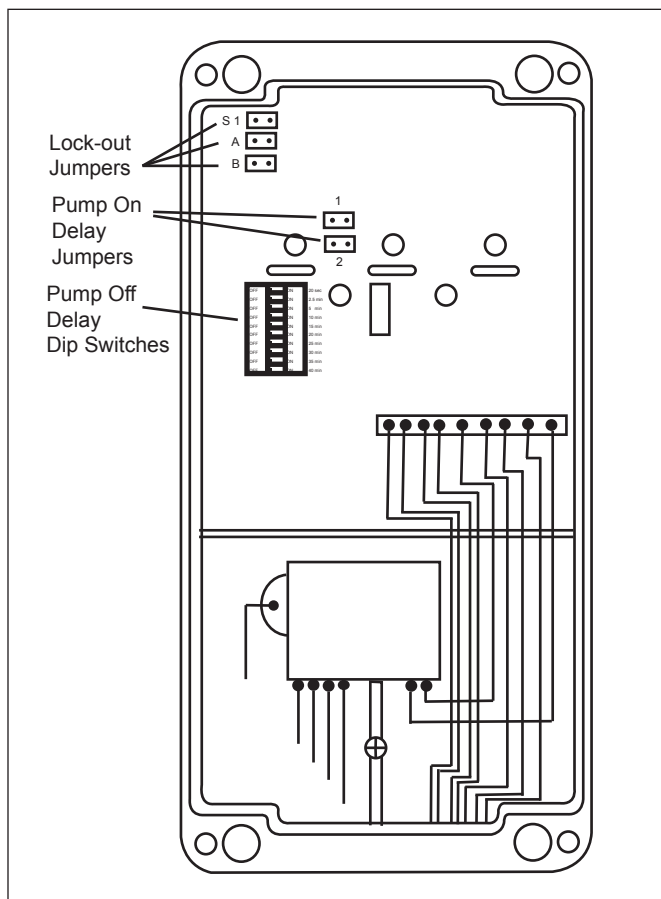

Figure 13. Jumpers and Dip Switches
The jumpers are located at the top left of the circuit board. See Figure 13.
The jumpers are located between the top left and middle controller lights on the circuit board. See Figure 13.
The dip switches are located below the top left controller light on the circuit board. See Figure 13.
2. Remove the three (3) screws from the upper cover plate on the front of the control box.
4. Locate the jumpers and dip switches. See Figures 13 and 14.
7. Install the three (3) screws. **Do not overtighten** or you will damage the plastic mounts.
4. Verify that jumpers 1 and 2 are installed on the control PCB. See Figure 13, page 14.
5. Replace the upper cover plate, making sure that the five (5) LEDs line up with the plastic lenses on the cover. Attach the upper cover plate to the control box using three (3) screws. **Do not over tighten.**